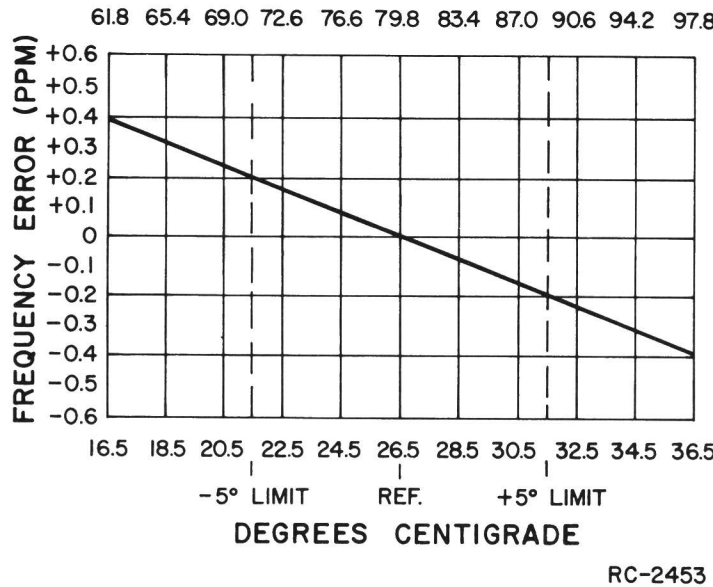

Figure 6 - Frequency Characteristics Vs. Temperature
To SET ICOM frequency using "beat frequency" method, the temperature should be at 26.5°C (79.8°F). If the temperature is not 26.5°C, then offset the "on frequency" signal (at the receiver input), as a function of actual temperature, by the frequency error factor (in PPM) shown in Figure 6.
- 2. Maintain the radio at 26.5°C (±10°C) and offset the oscillator, as a function of actual temperature, by the frequency error factor shown in Figure 6.
B. To hold setting error to ±0.35 PPM (which is considered reasonable for 2 PPM ICOMs): Maintain the unit at 26.5°C (±5°C) and offset the oscillator, as a function of actual temperature, by the frequency error factor shown in Figure 6.